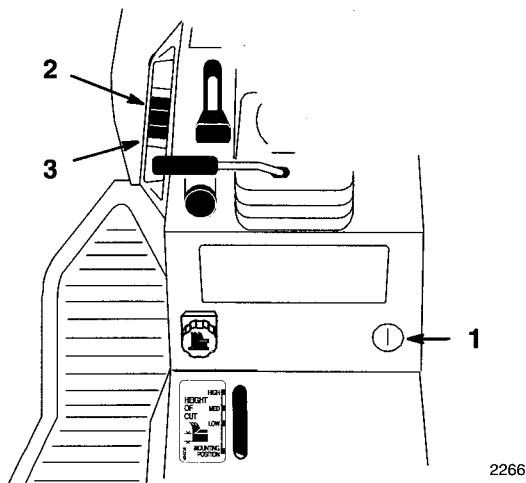

Figure 9
The attachment power lift (optional on some models) (Fig. 9) is used to raise and lower attachments.
1. Turn key to the "ON" or "RUN" position (Fig. 9).
2. Push the lift switch in the "UP" direction to raise the attachment lift (Fig. 9). This will lift and hold the attachment in the up, or raised position.
2. Push the lift switch in the "DOWN" direction to lower the attachment lift (Fig. 9). This will lower the attachment lift.
The Dial-A-Height control (Fig. 9) is used to limit the downward travel of the attachment. The Dial-A-Height knob is rotated to change the location of this stop, up or down.
1. Raise the attachment lift lever: Refer to Raising Attachments. In the raised position the Dial-A-Height knob (Fig. 9) can be rotated to change the stop location. Turn clockwise to raise and counterclockwise to lower the height of the attachment.
2. The Dial-A-Height indicator (Fig. 9) will show the change, high to low, in attachment lift height as adjustment is made.